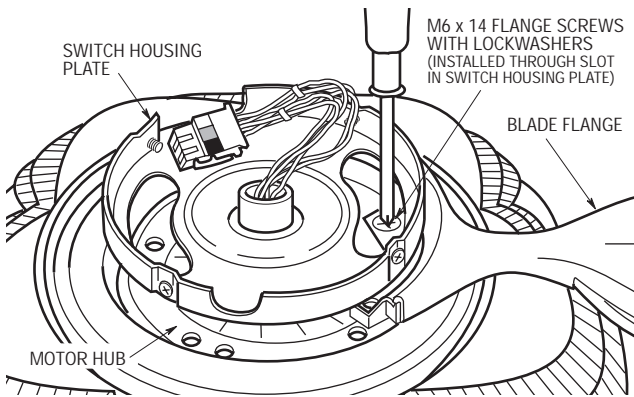

Figure 6
- 9. Loosely attach one blade assembly to the motor hub using two M6 x 14 flange screws with lockwashers preassembled in flange (Figure 6). Make sure the screws are **NOT** tightened. Repeat this procedure for the other four blade assemblies.